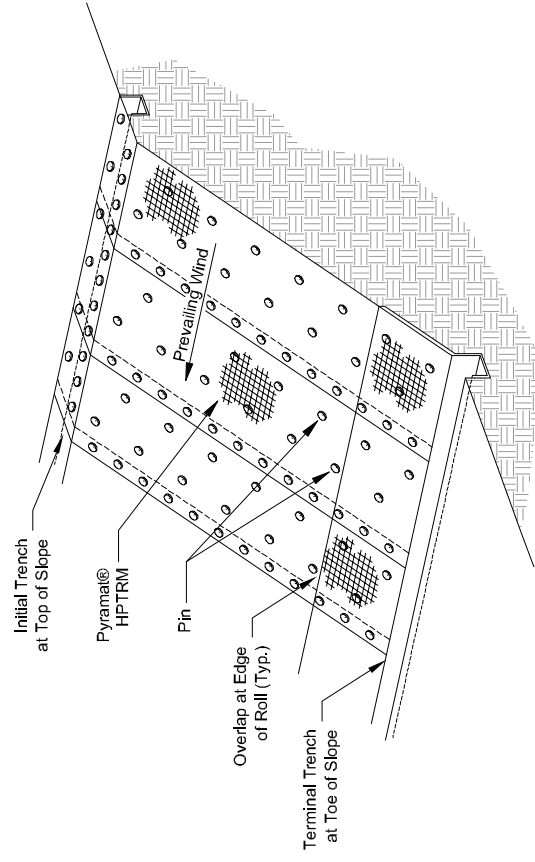

FIGURE 1: OVERVIEW OF PYRAMAT® HPTRM ON SLOPE
- Figure 1 shows general installation layout and details for Pyramat® HPTRM on a slope.